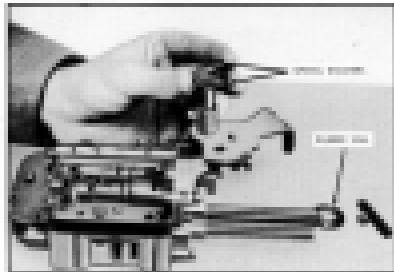

Fig. 427. Removing Rubber Seal and Spring Washers
2. Remove rubber seal and two spring washers from manual control shaft. (Fig. 427)